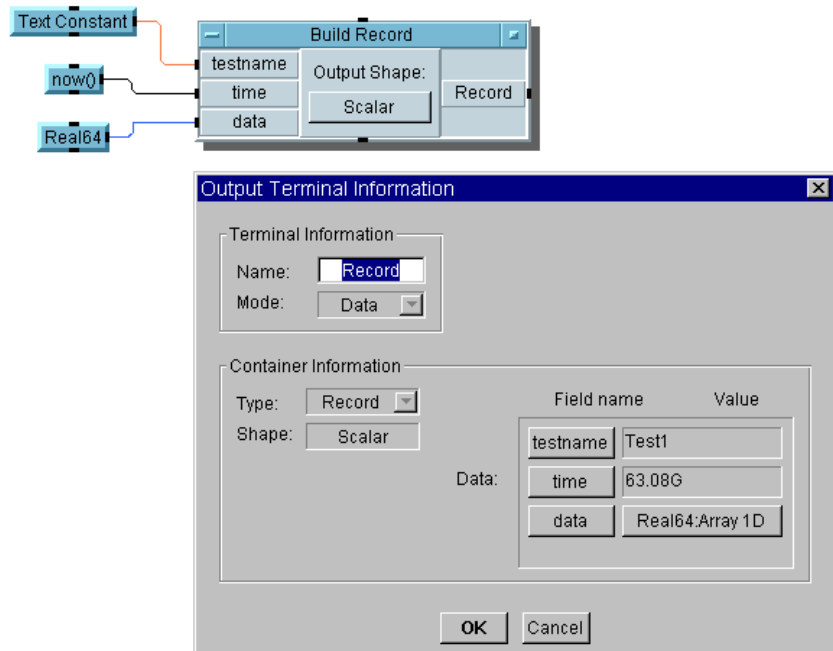

Figure 138 Output Terminal Information on a Record
- 15 Run the program. Double-click on the Record data output terminal to examine the record. It should look like Figure 138.